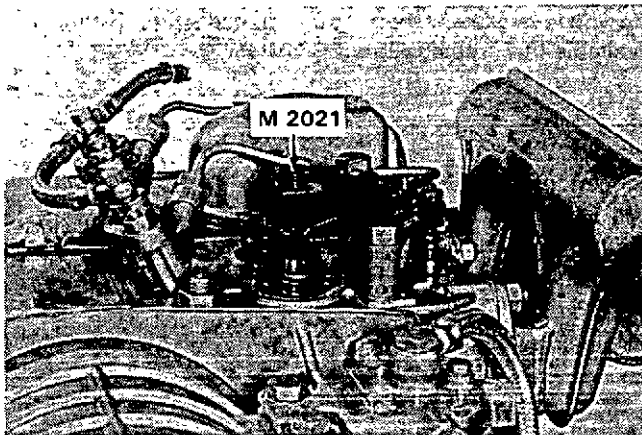

Figure 1
- e. Using the valve cover bolt, install M 2021 TDC tool on the rocker arm bracket and turn the bolt on the tool so that it will come in contact with the end of the rocker arm. This will hold the intake valve open 5-6 mm (1/4"). See Figure 1.